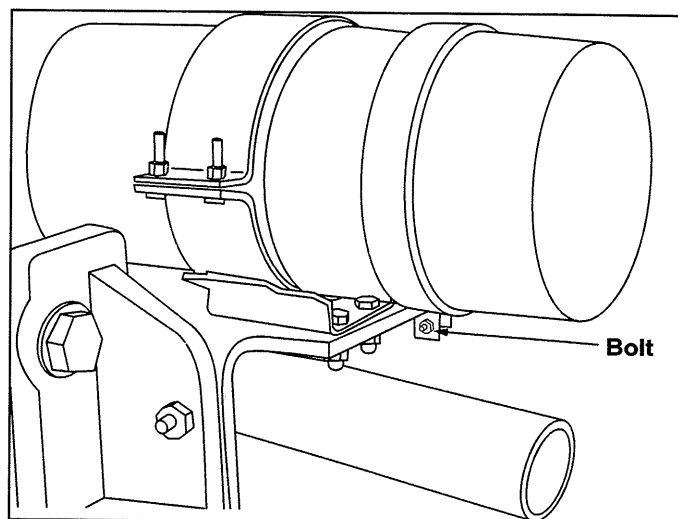

Figure 4-2. Engine Air Filter
2. Loosen the air cleaner cover bolt (Figure 4-2) to remove the air cleaner cover and gasket.